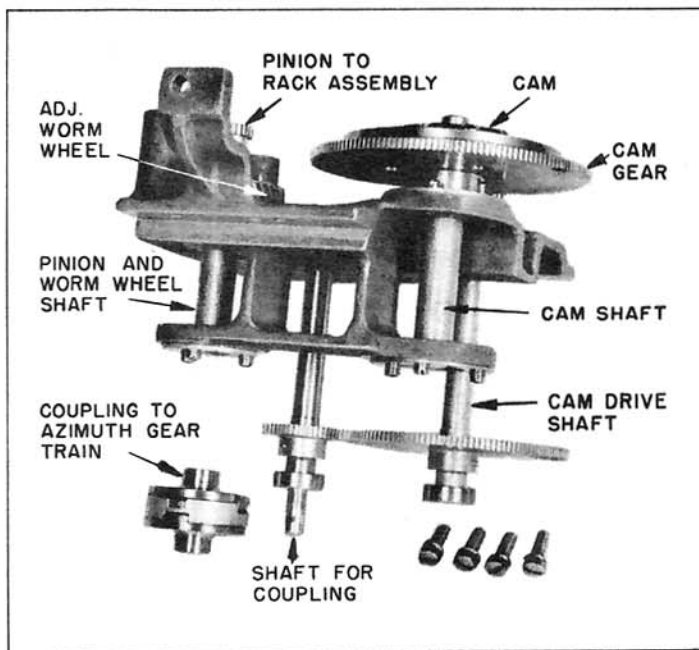

FIGURE 13
(2) Disassembly. - (a) If not previously removed, take off the coupling to the azimuth gear train as the initial step in disassembly. (See Figure 13.) This coupling may be damaged if the unit is moved on the workbench while it is attached to the unit.
(e) The fire cut-off assembly, which is installed next, should be cleaned thoroughly. There should not be more than .001" end play in the cam shaft. (See Figure 13.) The assembly is held to the case by 4 screws.